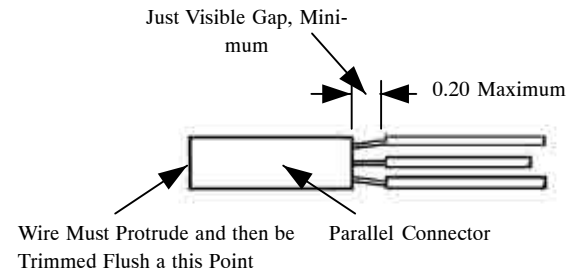

Figure 18. Connector Location and Wire Trimming
e. The stub splicing procedure completed thus far must meet dimensional requirements (Figure 18).
i. Completed stub splice assembly must meet dimensional requirements (Figure 18).
(1) Individual stub splices have been completely insulated
(2) Splices have been staggered to limit bundle enlargement